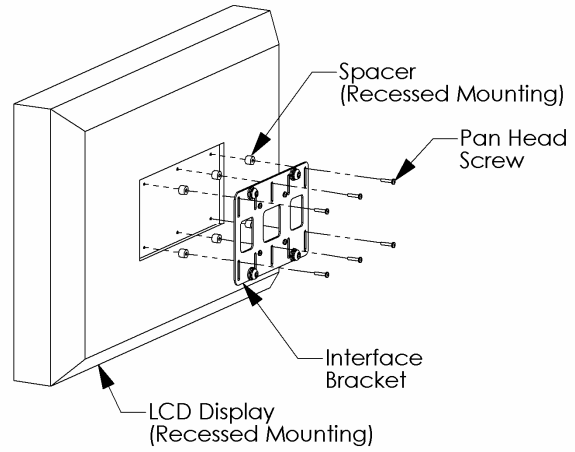

Figure 3
3. Place four Nylon spacers (3/8" or 3/4" as necessary) over four mounting holes in flat panel display (see Figure 3).